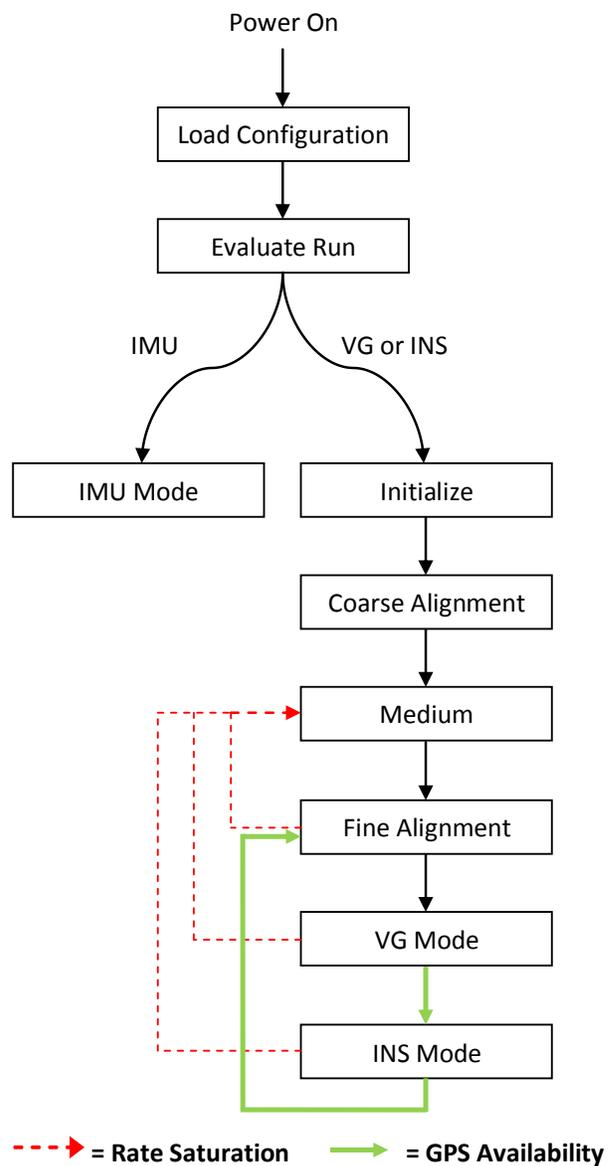

Figure 1. MIDG Series INS/GPS mode transitions.
1.1 Alignment Modes The MIDG Series INS/GPS has four distinct alignment modes. These alignment modes are the stages of sensor alignment. These modes do not provide full navigational data. The MIDG Series INS/GPS should be allowed to transition to an operational mode before relying on outputted data. Alignment time is about two minutes. The Figure 1 outlines the transitions between states. The alignment modes are as follows:
4 INS mode. In INS mode, the MIDG Series INS/GPS provides estimates of position, velocity, and attitude at rates up to 50Hz via a state estimation filter and error-corrected angular rates and accelerations are provided. In order to enter INS mode, the unit must be configured for INS operation (which is the default) and GPS must be available. The MIDG Series INS/GPS will not transition into INS mode without GPS. The MIDG Series INS/GPS will remain in INS mode until the accuracy of its estimates degrade to an unacceptable level due to lack of GPS measurements. In this case, the MIDG Series INS/GPS will transition back into the Fine Alignment mode, then proceed to Vertical Gyro mode, and then wait for GPS to become available once again Refer to the Figure 1.